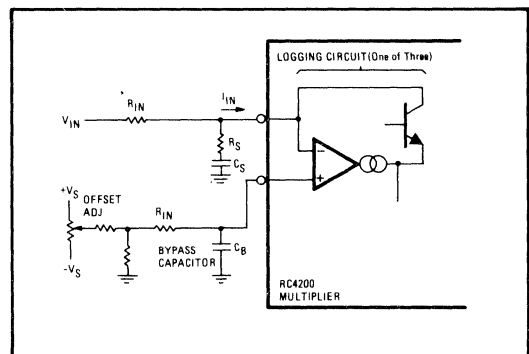

Figure 7. Optional Frequency Stability Components R_S , C_S , and C_B .
1. Connect a series $R_S C_S$ from input summing junction to ground as shown in Figure 7. This network has the effect of attenuating the feedback at high frequencies and thereby stabilizing the op amp. Loop gain at high frequencies is sacrificed, but this is seldom of concern in dividing or square-rooting applications. Recommended values are $10\text{k}\Omega$ for R_S and $0.005\mu\text{f}$ for C_S .
2. The resistor on the noninverting input can be bypassed as shown in Figure 7. This helps to reduce noise.